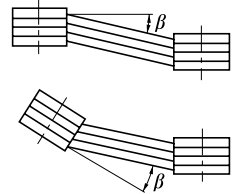

Fig. 4
(2) Use of chain, sprocket, and gear
(3) Use of V belt
- Pulleys must be parallel within 20' (arc) or less. (Fig. 4)